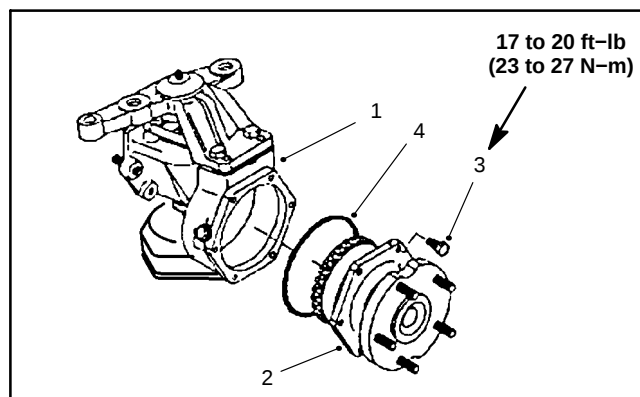

Figure 75
1. Remove the axle cover mounting screws. Remove the axle cover from the axle case as an assembly (Fig. 75).